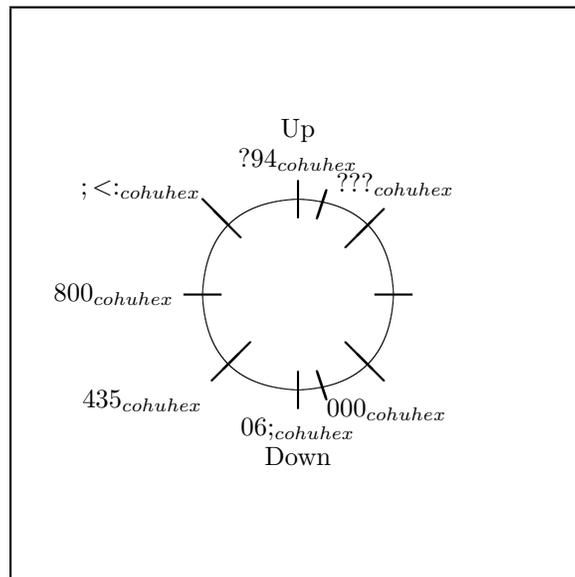

Figure 4: Cohu MPC Tilt Readout Positions, CohuHex values[`intro:cohutiltreadoutshex`]
- 2.2.1. In Figure 4, page 25 are the Cohu Hexidecimal values that apply as a camera is tilted.